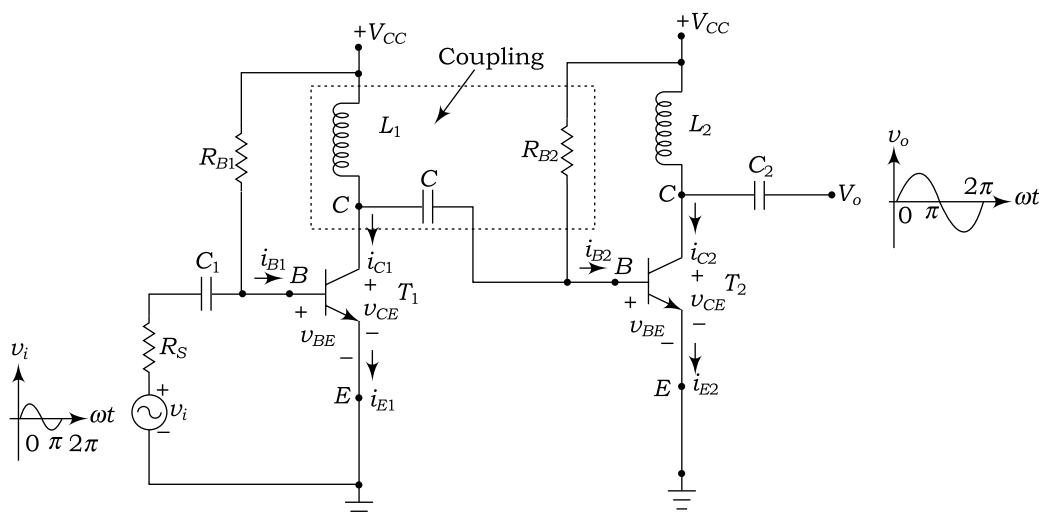

Fig. 3.94 Impedance coupling
Figure 3.94 shows a two-stage impedance-coupled amplifier. This circuit has two single-stage common-emitter amplifiers. If the collector resistance RC of Fig. 3.94 is replaced by an inductor (L), we get an impedance-coupling amplifier. The functions of C_1 , C_2 , and C are same as RC coupled amplifier.